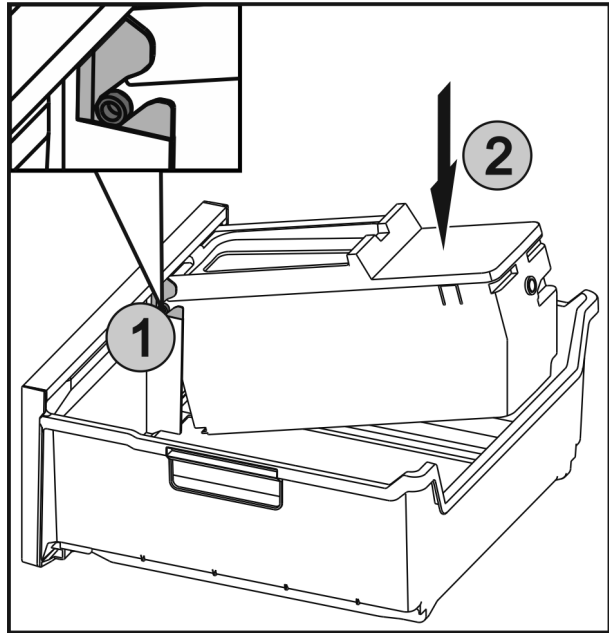

Fig. 66
- ▶ Insert the axles Fig. 66 (1) on the EasyTwist-Ice in the guides and push the rear side Fig. 66 (2) until the lug engages.